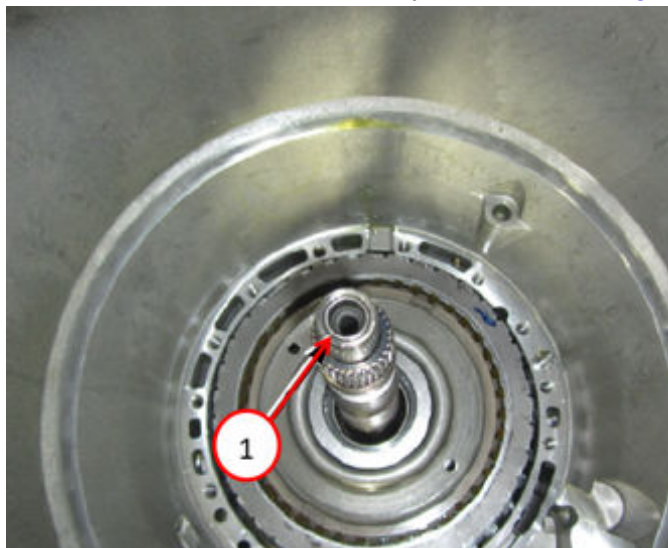

Fig. 35
53. Install the park pawl lock rod onto the fork Fig. 35.